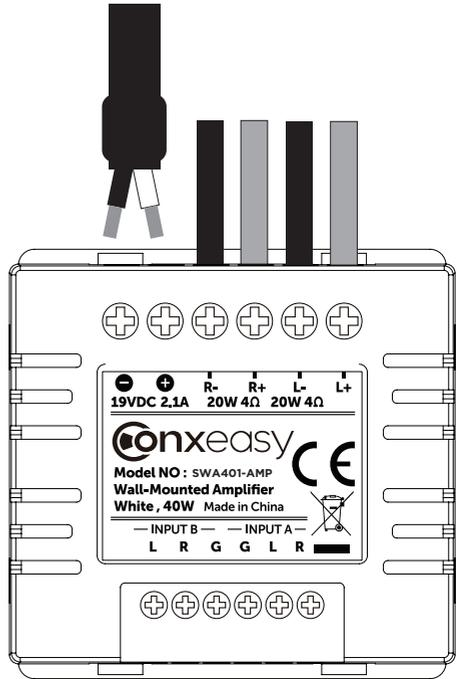

Fig. 2.
STEP 3: Along with the speaker wire, route the power supply to the same cutout and terminate the positive and negative leads at the back of the SWA401-AMP, as shown in fig. 2.